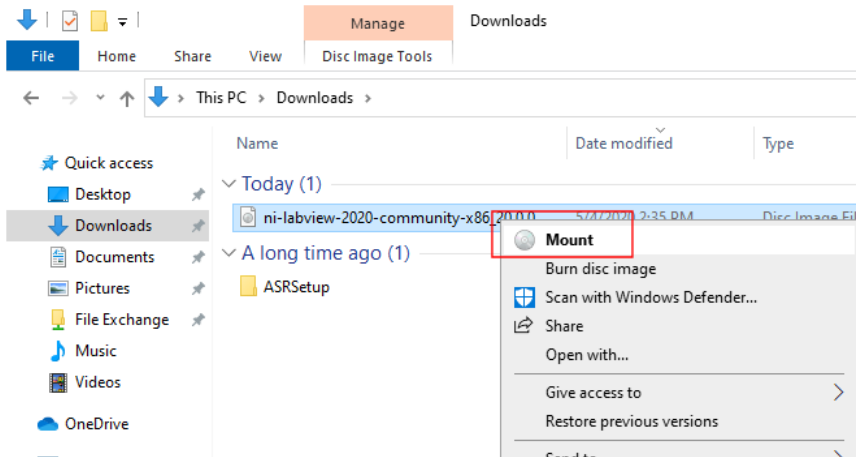

Figure 2-10 Mounting the ISO file
- When finished, “ni-labview-2020-community-x86-xxx.iso” will be downloaded. Right-click and select “Mount” (Figure 2-10).